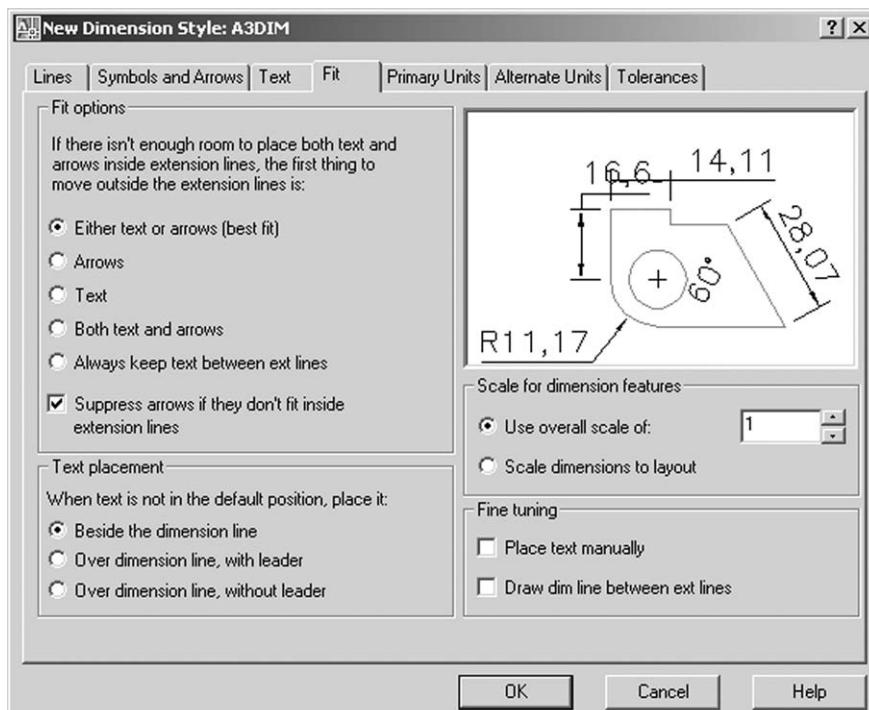

Figure 14.7 The Fit tab dialogue box for the A3DIM dimension style.
- and dialogue box similar to Figure 14.7.